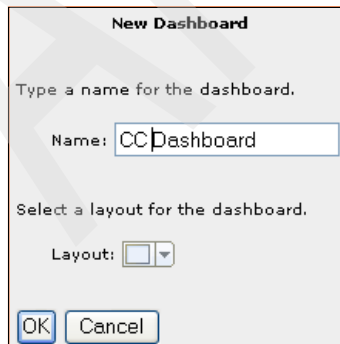

Figure 10-88 New Dashboard panel
4. In the New Dashboard panel (Figure 10-88), for Name, type *CC Dashboard* to create a blank dashboard. Click **OK**.